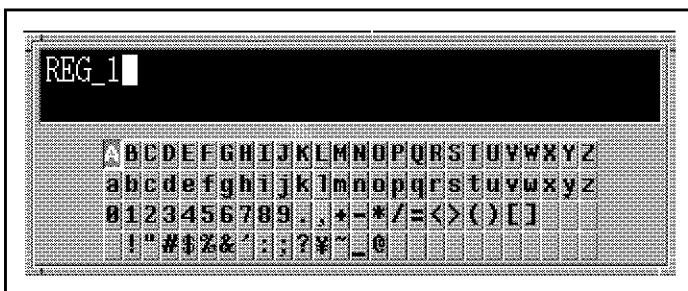

Figure 7-19 Label Window Display
- ① Press the **[SAVE]** to call the save menu. (Refer to section A.4.)
- ② Press the **{SAVE REGISTER}** to call the save register menu.
- ③ Press the **{RENAME REG}** to display the label window and calls the name editing menu.
- ④ Name editing menu
{EDIT NAME}	: Displays the label window (Figure 7-19) and calls the character editing menu. (See step ⑤.)
- ② Press the **{STORE FILE}** to call the store file menu.
- ③ Press the **{NAME↑}**, **{NAME↓}** to select a desired file name.
- ④ Press the **{EDIT NAME}** to display the label window (Figure 7-19) and calls the character editing menu.
- ⑤ Character menu